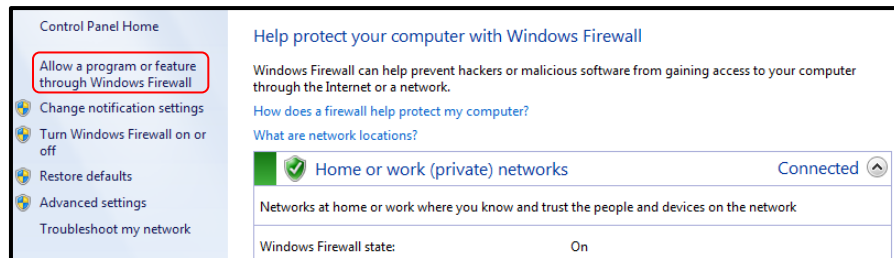

Figure 85 - Allowing a program through Windows Firewall
2. In the left sidebar, click the “Allow a program or feature through Windows Firewall” link. Refer to Figure 85.